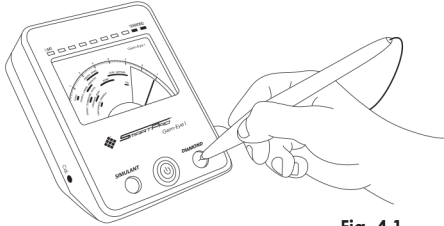

Fig. 4.1
Step 4. Test the Diamond Test Disc by pressing the probe pen onto it (**Fig. 4.1**). The indicator should reach its highest point well within the Blue band of the panel display. See User's manual page 17. If one of the Steps 2-4 is failed, you can start to perform the proper calibration.